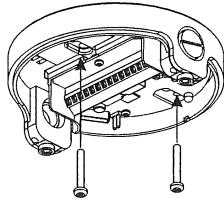

Fig2
- 2) Mount the base on the intended location. Connect the conduit pipes and draw the wires through the conduit pipes (Fig. 2).
- 2) Mount the base on the intended location. Connect the conduit pipes and draw the wires through the conduit pipes. (Fig. 2)